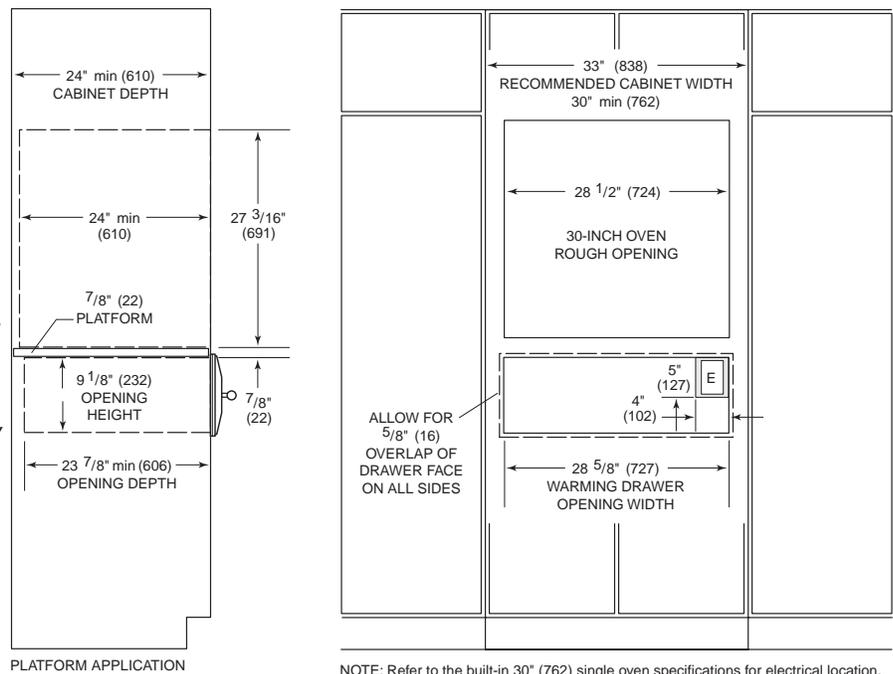

Figure 2-6. Installation with Built-In Wall Oven
The Wolf warming drawer with stainless steel drawer front may be installed below or above a Wolf 30" (762) single oven, provided the warming drawer is fully enclosed, top and bottom. See Figure 2.6